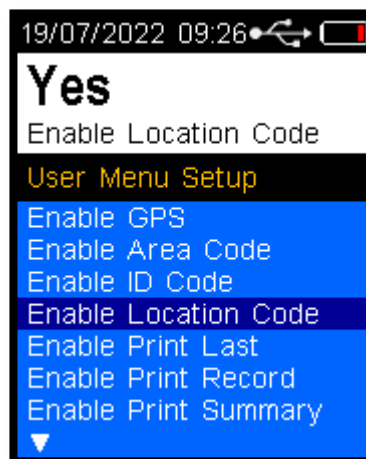

Figure 51 Location Code
- Press the down button and scroll to Location Code (Refer Figure 51).